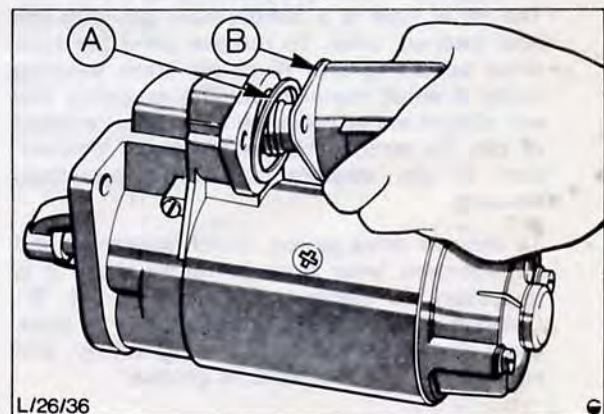

Fig. 81. Disconnecting two field brushes
3. To remove commutator end housing the spire retaining clip fitted over end of armature shaft must be removed. Ensure that a replacement clip is available, as only satisfactory way of removing clip is to break clip's claws which grip shaft, with a sharp chisel. After removing clip unscrew 'through' bolts, commutator end housing can then be withdrawn far enough to allow removal of two field coil brushes, Fig. 81.